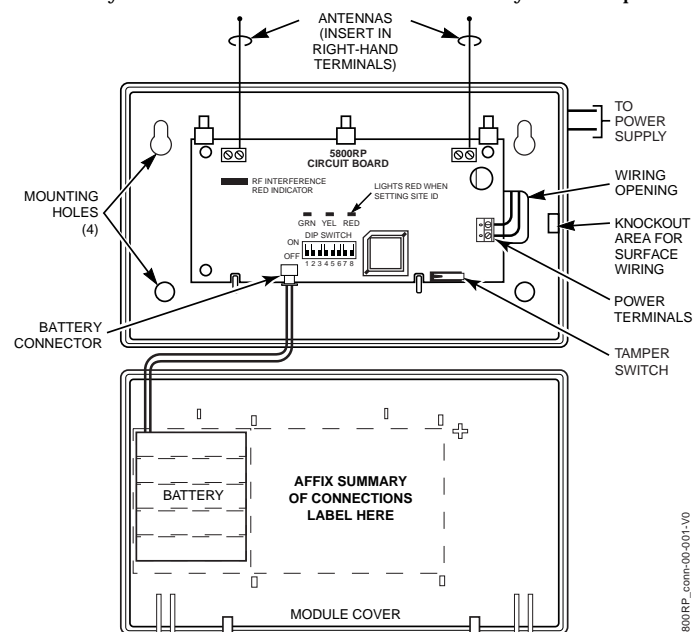

Figure 2.
The 5800RP can be powered from either an AC or DC external power source connected to terminals 1 and 2 (see figure 2).
- Connect the power supply to the 5800RP's terminals. Refer to Figure 2. These terminals are not polarized. The leads from DC supplies may be connected to either terminal.
- Begin battery installation by attaching an adhesive backed hook and loop fastener strip (supplied) to the Summary of Connections label in the cover. Place the strip within the large box drawing labeled 'PLACE BATTERY HERE'. Refer to Figure 2.
- Attach another adhesive backed hook and loop fastener strip to the battery. Attach the battery to the cover by firmly pressing the two hook and loop fastener strips together. Make sure the battery is positioned as shown in Figure 2.
- Plug the battery cable into the battery connector on the 5800RP PCB. Refer to Figure 2.
- Temporarily disconnect the power supply and battery from the 5800RP. Refer to Figure 2.